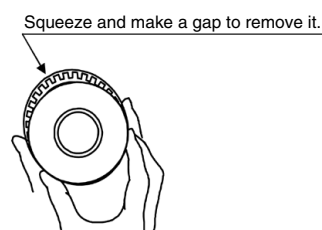

Fig. 2 Removal of piston seal
③⑨ Piston seal: Remove the piston seal. (Fig. 2)
④⑩ Cylinder tube gasket: Insert a watchmakers screw driver to pull out the seal.